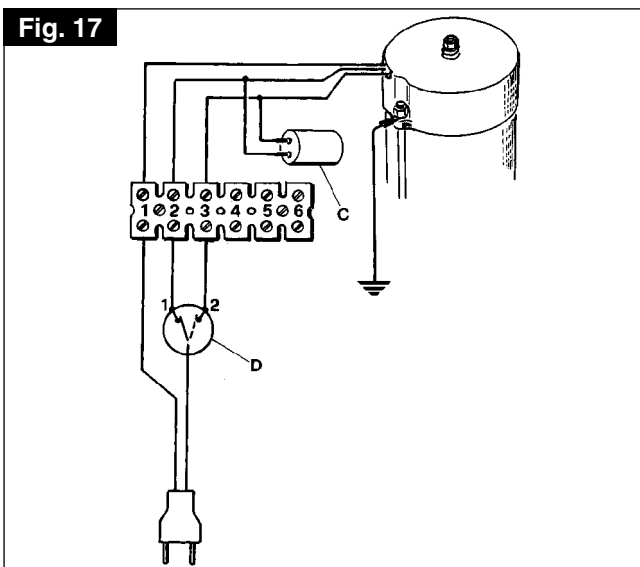

Fig. 18
- If the limit switches don't work, make sure the contacts are normally open or closed depending on the control unit applied (fig. 18). If this isn't the cause, invert all the connection wires to the control unit except the common limit switch one. Should the photocells invert the gate movement during the opening phase instead of the closing phase, invert the two motor wires.